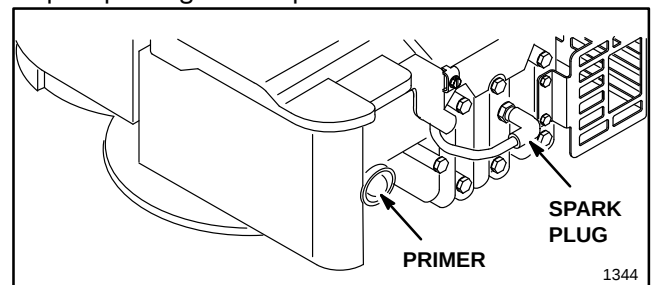

Figure 6
1. Push spark plug wire onto spark plug (Fig. 6).
4. Push primer three (3) times (Fig. 6). **Wait about two (2) seconds between each push.**